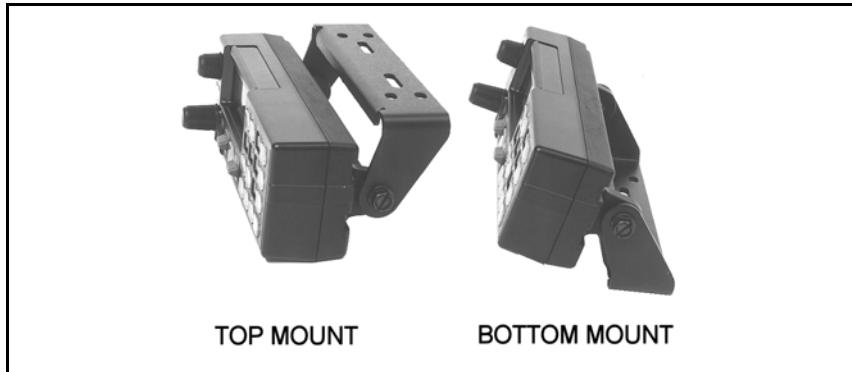
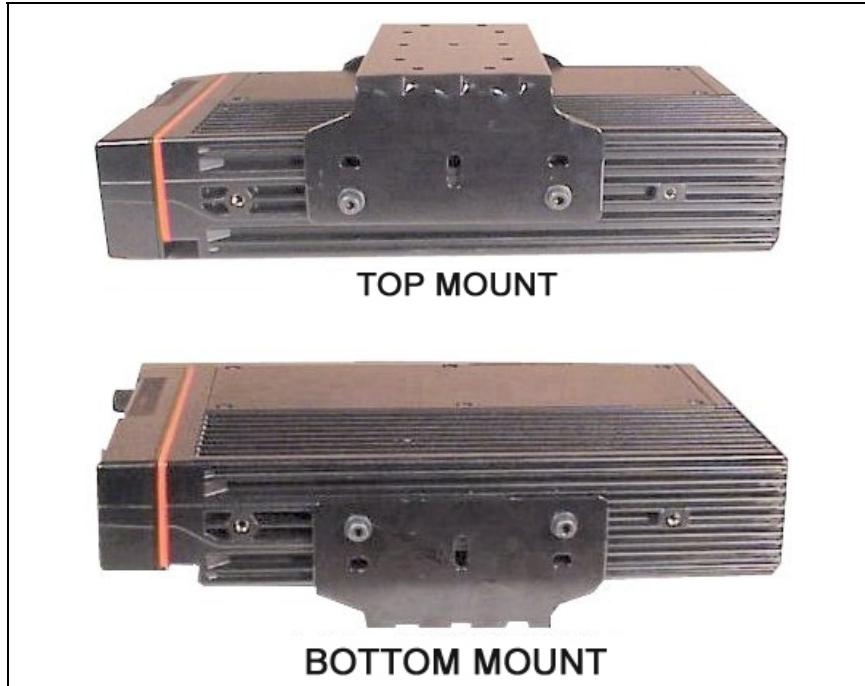

Figure 12 – Control Unit Mounting Bracket Installation
Figure 19 – Mounting Bracket Installation
1. Using the bracket as a template, mark and drill the mounting holes. Be sure to leave enough room at the rear of the control unit for the cable connector and to allow the unit to swivel. Refer to Figure 12 for control unit mounting bracket installation.
Typically, the bracket shown in Figure 19 is used for Front Mount applications. The bracket can be mounted so that it is either above or below the radio for the user’s convenience. The bracket pictured in Figure 12 can also be used for Remote Mount applications. The following instructions are for a Front Mount installation using the bracket shown in Figure 19.
The bracket shown in Figure 20 is used in Remote Mount configurations. In some applications, the bracket shown in Figure 19 can also be used for Remote Mount installations. The following instructions are for a Remote Mount installation using the bracket shown in Figure 20.